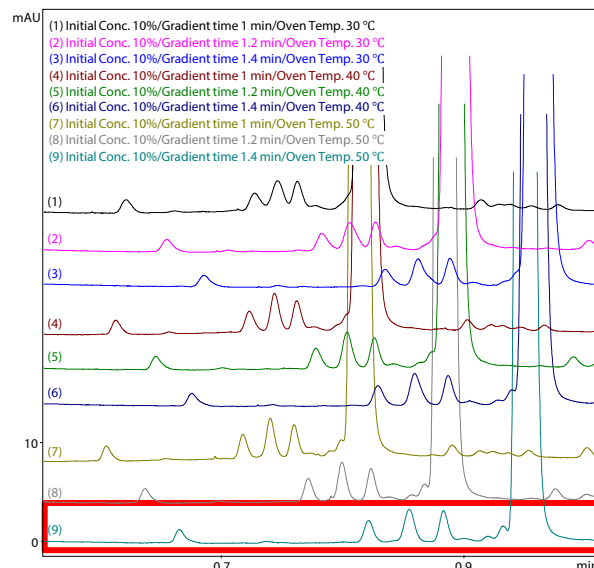
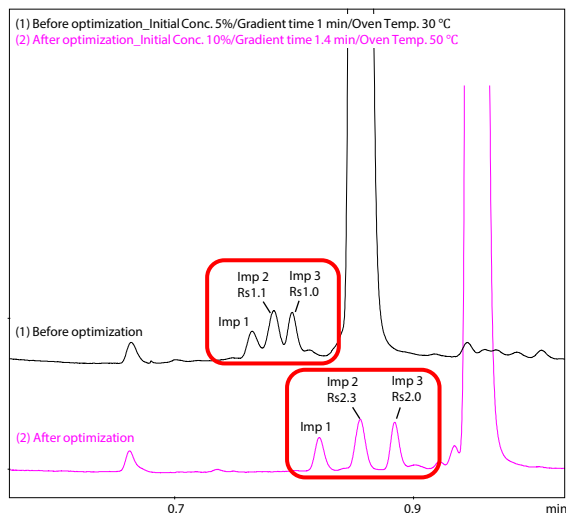

Fig. 5 Chromatograms Obtained During Separation Optimization
Fig. 7 Comparison of Chromatograms Before and After Optimization by Nexera X4
Representative chromatograms obtained during the separation optimization are shown in Fig. 5. In the process of optimizing separation conditions, varying multiple parameters results in a large number of chromatograms, making it a time-consuming task to determine which conditions provide the desired separation. This process typically requires both substantial effort and a certain level of chromatographic expertise. LabSolutions MD enables users to quickly and easily identify optimal conditions by quantitatively evaluating the separation performance for each condition using the equation shown below (Eq. 1), eliminating the need to rely on intuition or experience.
Evaluation Value is calculated as the number of peaks detected (P) multiplied by the sum of the resolution factors (Rs). Fig. 6 shows the Evaluation Value obtained from the investigation of initial concentration, gradient time, and column oven temperature, ranked in descending order. The highest Evaluation Value was obtained under the condition with an initial concentration of 10%, a gradient time of 1.4 minutes, and a column oven temperature of 50 °C, corresponding to chromatogram (9) in Fig. 5. A comparison of chromatograms before and after optimization is shown in Fig. 7, demonstrating that comprehensive condition screening with LabSolutions MD greatly streamlined the workflow and significantly improved the separation of each impurity.